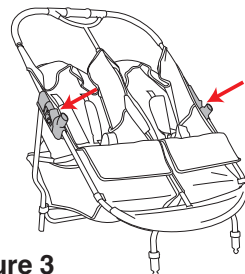

Figure 3
- Pull upwards on the handlebar until the stroller is completely opened and the latching mechanism on each side is engaged. See Figure 3. NOTE: Be careful not to scratch the floor when opening the stroller.